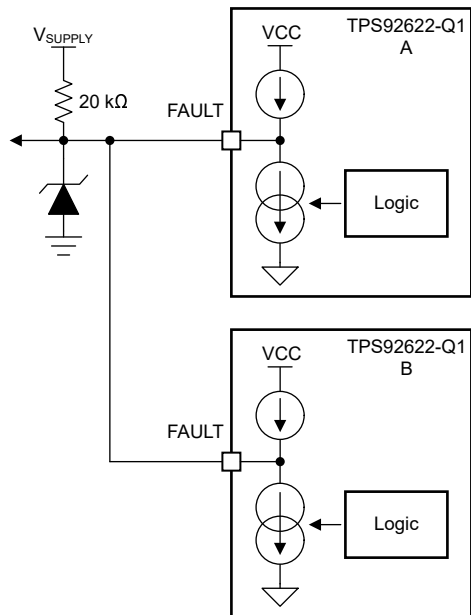
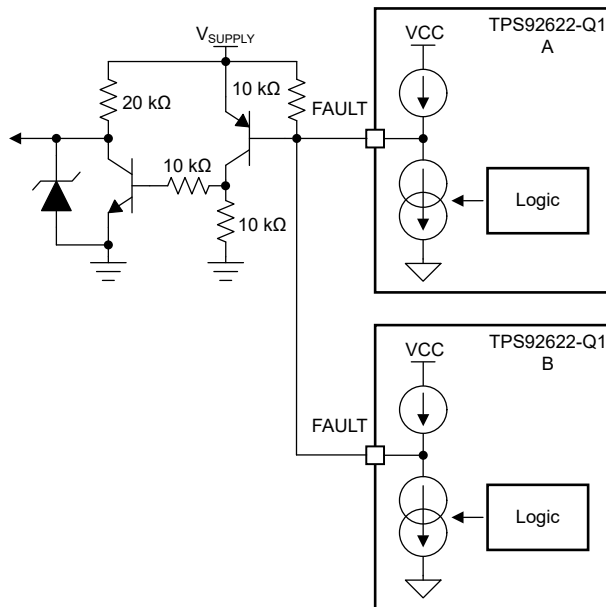

図 6-6. FAULT Bus for One-Fails-All-Fail Application
図 6-7. FAULT Bus for One-Fails-Others-On Application
Based on this feature, the TPS92622-Q1 device is able to construct a FAULT bus by tying FAULT pins from multiple TPS92622-Q1 devices to achieve one-fails-all-fail function as Figure 6-6 showing. The lower side TPS92622-Q1 (B) detects any kind of LED fault and pulls low the FAULT pin. The low voltage on FAULT pin is detected by upper side TPS92622-Q1 (A) because the FAULT pins are connected of two devices. The upper side TPS92622-Q1 (A) turns off all output current for each channel as a result. If the FAULT pins of each TPS92622-Q1 are all connected to drive the base of an external PNP transistor as illustrated in Figure 6-7, the one-fails-all-fail function is disabled and only the faulty channel device is turned off.